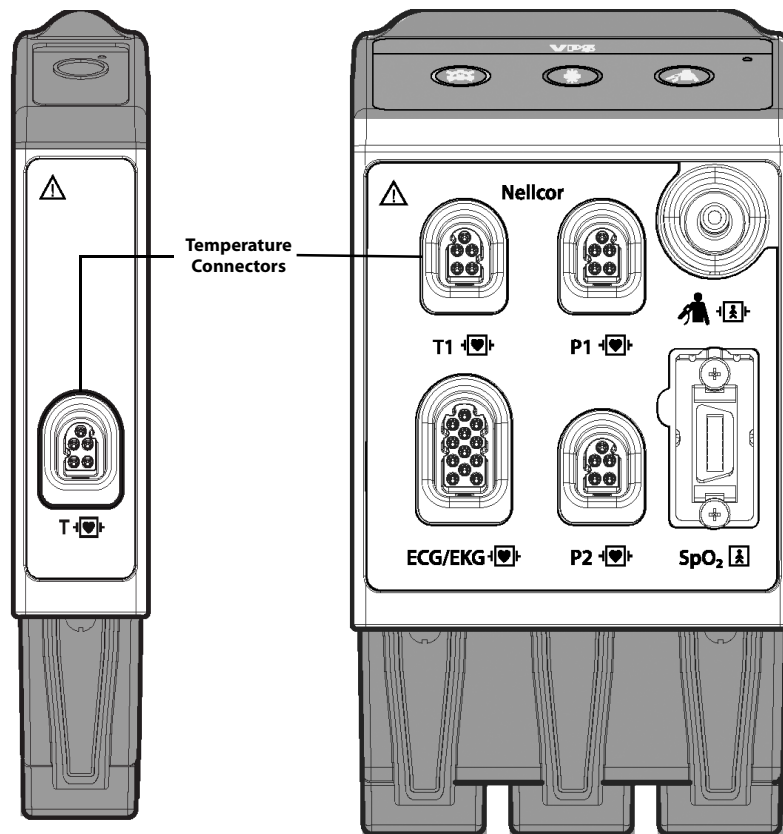

FIGURE 13-1 Example VPS Temp Connectors (Standalone Module on Left, VPS on Right)
The VPS module supports one (1) Temperature connector (as shown in FIGURE 13-1). Refer to "Measuring Temperature" on page 13-9 for additional information.